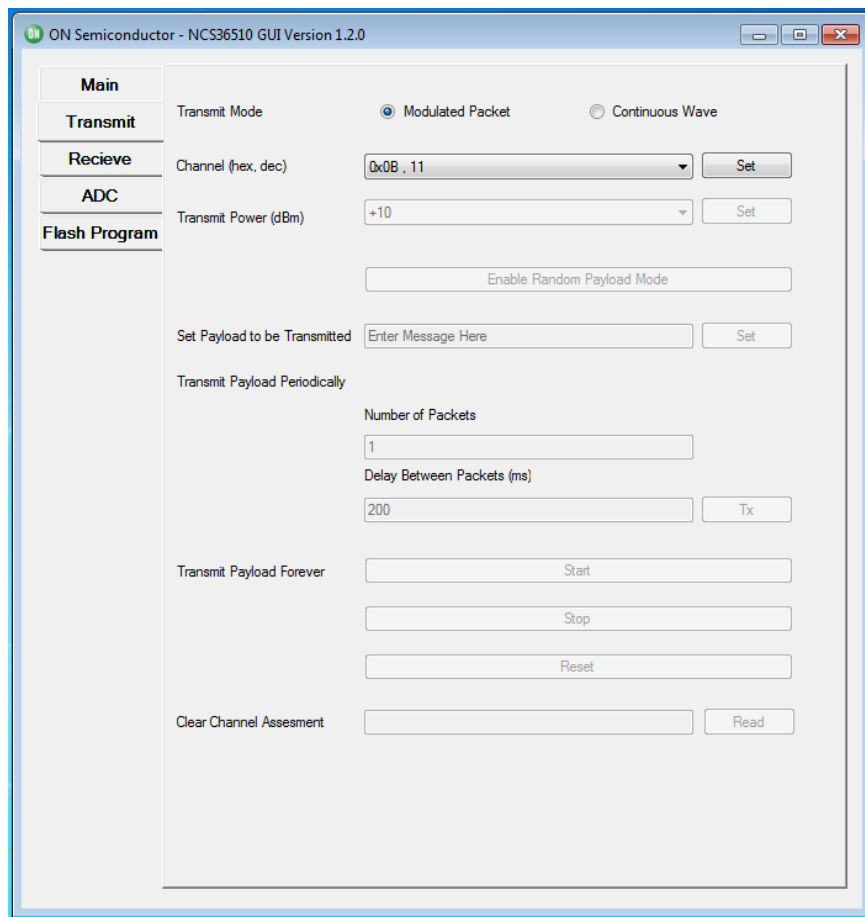

Figure 6. GUI–Transmitter–Interface
2. From the default “Main” tab select the “Transmit” tab. The “Transmit” page will look as shown in Figure 6.
2. From the default “Main” tab select the “Transmit” tab. The “Transmit” page will look like section “GUI Example – Transmitter”, Figure 6.
2. From the default “Main” tab select the “Transmit” tab. The “Transmit” page will look like the one shown in Section: GUI Example – Transmitter, Figure 6.